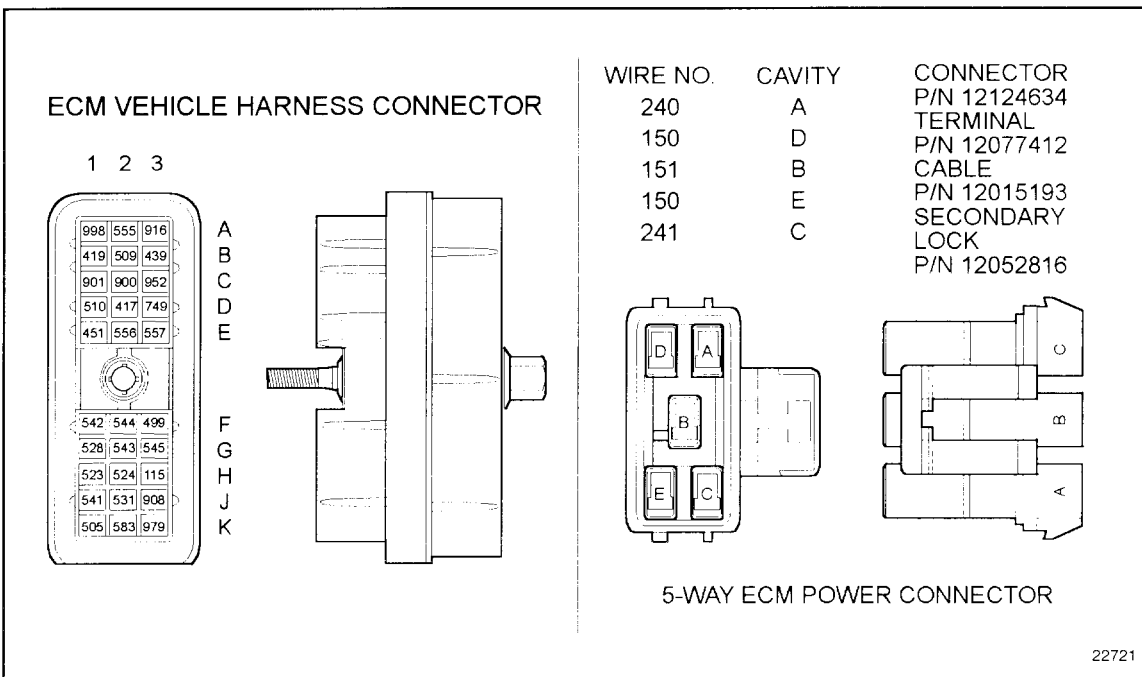

Figure 36-3 ECM Vehicle Harness Connector
2. Disconnect the vehicle harness and 5-way power connectors at the ECM. See Figure 36-3.